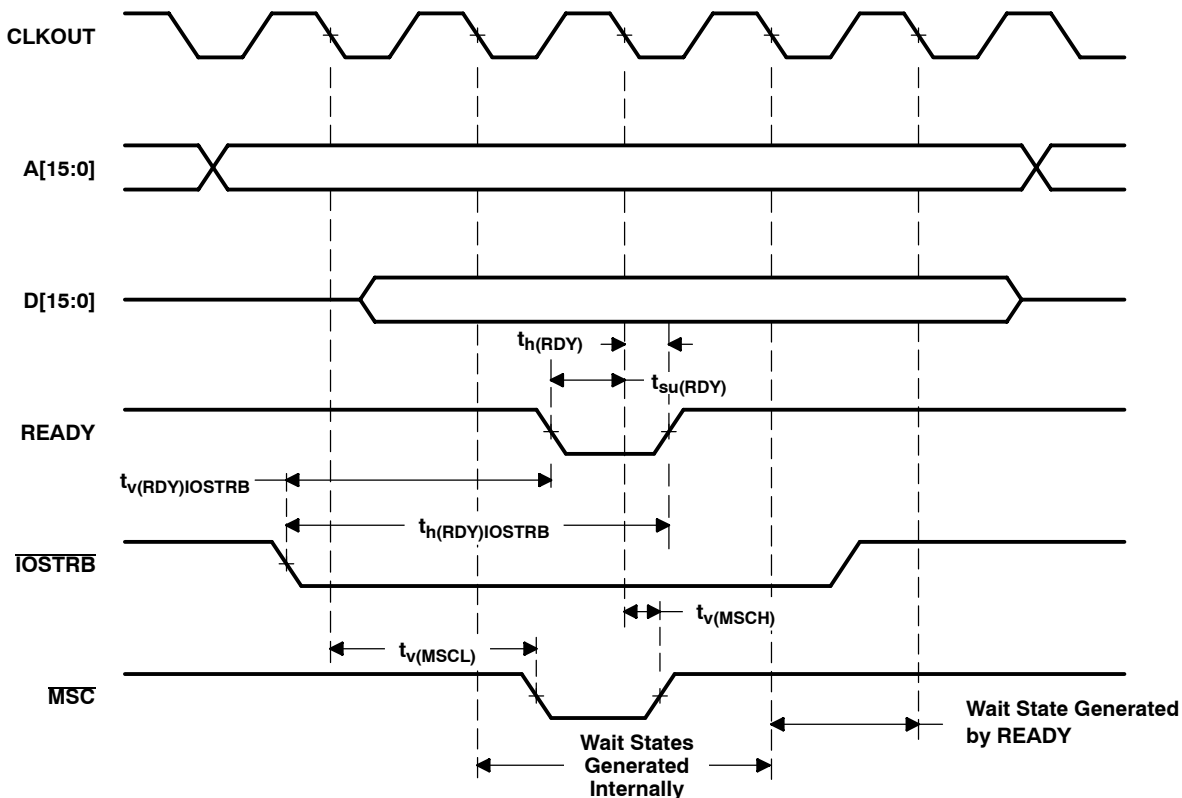

Figure 13. I/O Write With Externally Generated Wait States
**timing requirements for externally generated wait states [ $H = 0.5 t_{c(CO)}$ ]† (see Figure 10, Figure 11, Figure 12, and Figure 13)**